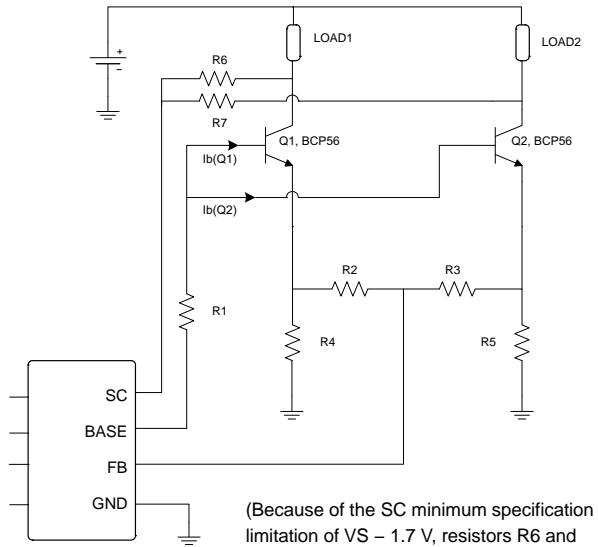

Figure 20. Driving Multiple Strings
Figure 20 along with Figure 21 and Figure 22 highlight the use of the NCV7691 device with multiple strings connected to a common drive BASE pin and using external resistors to tie additional strings to a common feedback point (FB). The FB pin will maintain regulation with the FB pin at 152 mV.